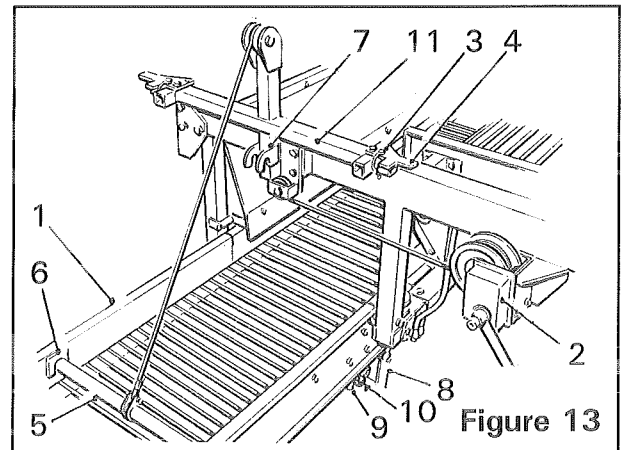

Figure 13
To reduce the width of the machine, the cross conveyor is fitted with an extension (*item 1, figure 13*). The extension is raised into the transport position and lowered into the working position by a winch (*item 2, figure 13*).
1. Remove the retaining pins (*item 3, figure 13*) and rotate the catch plates (*item 4, figure 13*) to the unlocked position.
2. Lower the extension by using the winch (*item 2, figure 13*).
3. When fully lowered, unwind the winch a few extra turns to allow the winch bar (*item 5, figure 13*) to be removed from the locating plates (*item 6, figure 13*).
4. Rewind the winch and locate the winch bar (*item 5, figure 13*) in the storage plates (*item 7, figure 13*).
5. Swing the locking arm (*item 8, figure 13*) until it locates in the slots (*item 9, figure 13*) and secure it with the locking pins (*item 10, figure 13*).
2. Remove the locking pins (*item 10, figure 13*) and allow the locking arm (*item 8, figure 13*) to swing down.
3. Unwind the winch (*item 2, figure 13*) and locate the winch bar (*item 5, figure 13*) securely in the locating plates (*item 6, figure 13*).
4. Rewind the winch and raise the extension (*item 1, figure 13*) until it makes contact with the stop bar (*item 11, figure 13*).
5. Rotate the catch plates (*item 4, figure 13*) to secure the extension and lock them in position with the retaining pins (*item 3, figure 13*).
*Never leave the cross conveyor extension in the middle position. The cross conveyor extension must be set in either the working position or the transport position. When set in the transport position, the catch plates (*item 4, figure 13*) must be locked in position with the retaining pins (*item 3, figure 13*).*